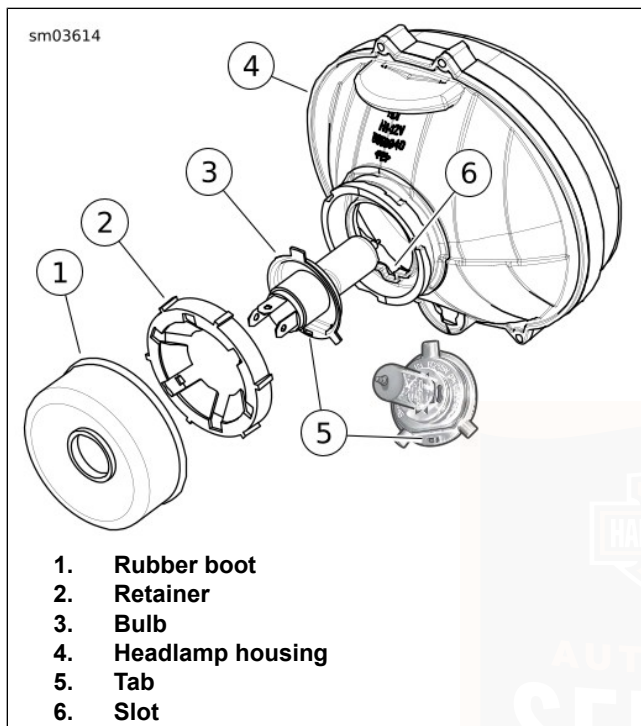

Figure 61. Headlamp Housing Assembly
1. See Figure 61. Remove rubber boot (1).
2. Rotate retainer (2) counter-clockwise and remove.
4. See Figure 61. Install **new** bulb in headlamp housing. Be sure tab (5) on bulb is aligned with slot (6) in bulb housing.
5. Install retainer (2) and rotate clockwise to secure.
6. Install rubber boot (1) over retainer until flush with base of bulb socket.